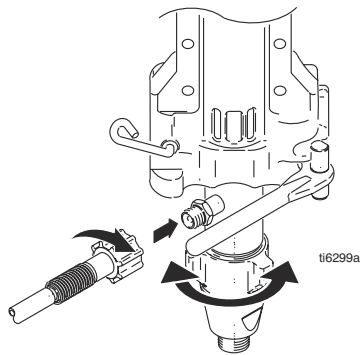

FIG. 26
4. FIG. 26. Close pump door and rotate latch into position. Do not tighten latch.
5. FIG. 26. Rotate pump to align with paint hose. Connect paint hose and hand tighten to 70 in-lb